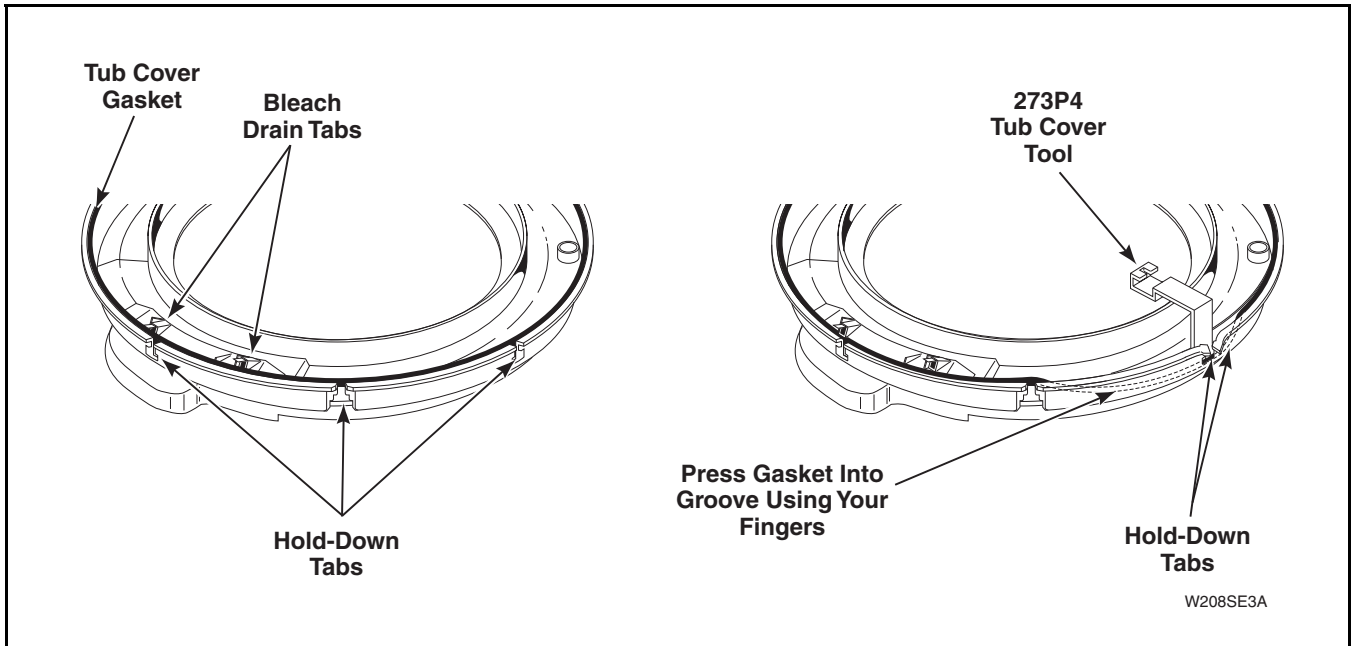

Figure 33
- g. Starting at positioning pin located between two bleach funnel outlet tabs, lay gasket into gasket groove of tub cover. Refer to *Figure 33*.
- i. Install gasket past ends of hold-down tabs to bottom of gasket groove using semi-curved end of tub cover tool Part No. 273P4. Refer to *Figure 33*.
- (3) Starting at the positioning pin located between the two bleach funnel outlet tabs, lay gasket into gasket groove of tub cover. Refer to *Figure 33*.
- (4) Using your fingers, press gasket down into gasket groove of tub cover. Avoid pressing gasket past ends of hold-down tabs.